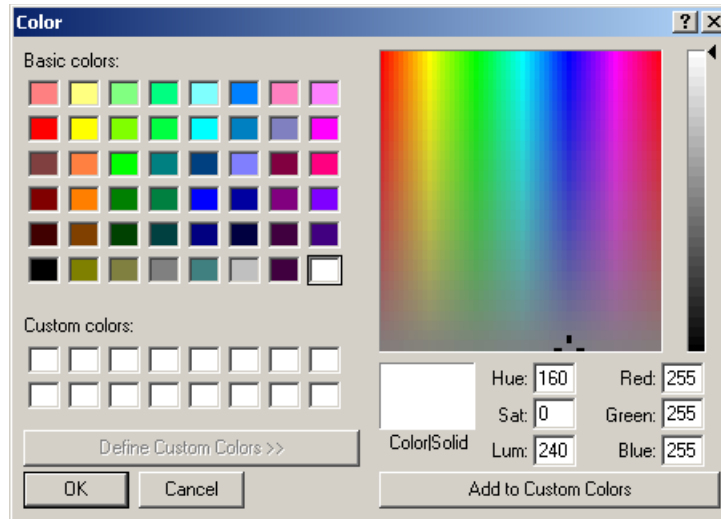

Figure 3.28: The Custom Colors Palette
2. If you want to use one of the existing color definitions, skip to the next step. If you want to define a custom color, click **Define Custom Colors**. The color palette expands, as shown in Figure 3.28 on page 3.37. Specify the color as a combination of Hue, Saturation, and Luminosity or as a combination of Red, Green, and Blue, and click Add to Custom Colors.